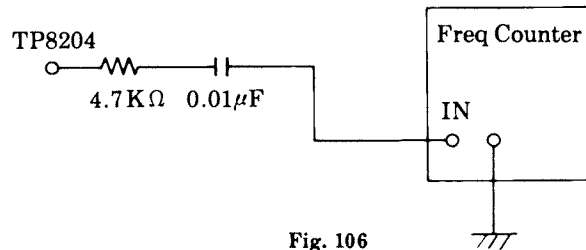

Fig. 106
7. Connect the frequency counter to TP8204 as shown in Fig. 106.